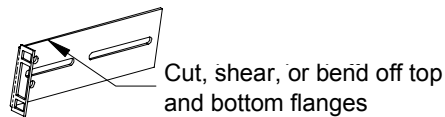

Figure 5 Modifying rear bracket
2. Requires bracket to be modified as shown in Figure 5.